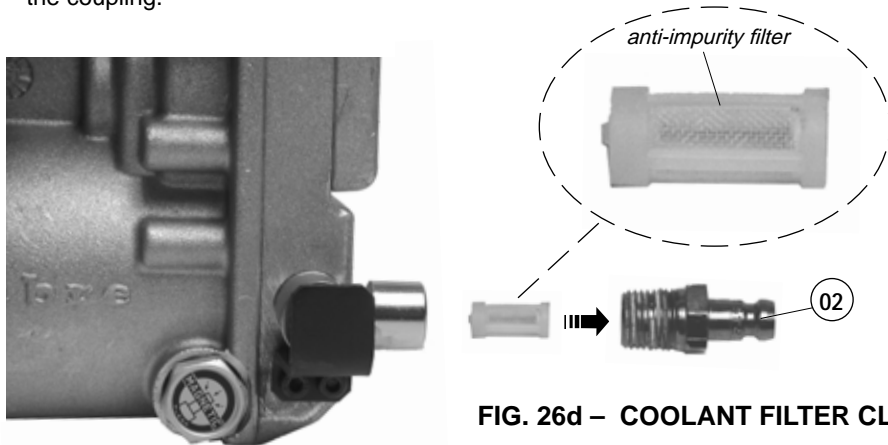

FIG. 26d – COOLANT FILTER CLEANING
– Lubricate the spindle support housing by means of the appropriate lubricator (21), the screw (07) of the **DBG-F2** clamping device.
13.1.5) Coolant filter cleaning (Ref. to Fig. 26d)
- Using a 14 mm key, unscrew the coupling (02).
- Reassemble the filter into the coupling (02) as shown in the Fig. 26d and fully tighten the coupling.